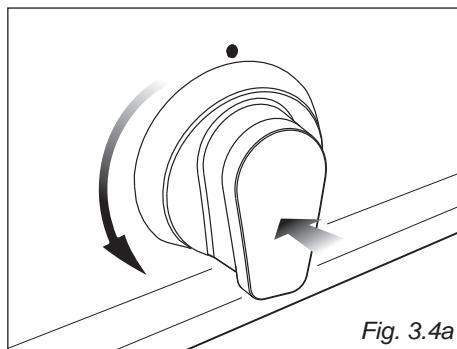

Fig. 3.4a
1. Push and turn the knob in an clockwise or anticlockwise direction up to the  position (maximum rate of inner crown) or  position (maximum rate of inner + outer crown), push in and hold the knob until the flame has been lit (fig. 3.4a or 3.4b). The sparks produced by the lighter situated inside the relative burner will light the flame.